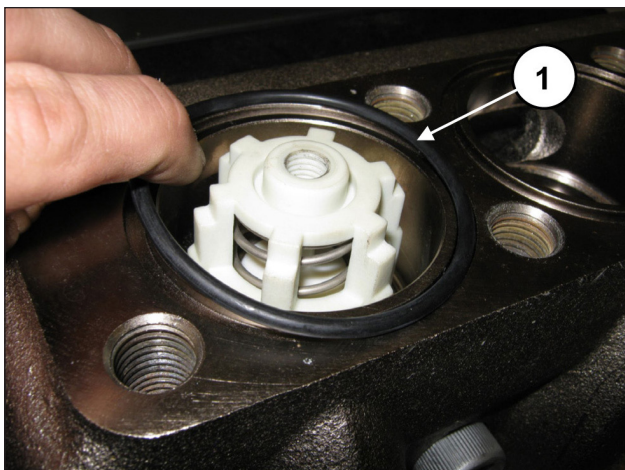

Fig. 160
Insert the front O-ring in the outlet valves (pos. ①, Fig. 160).